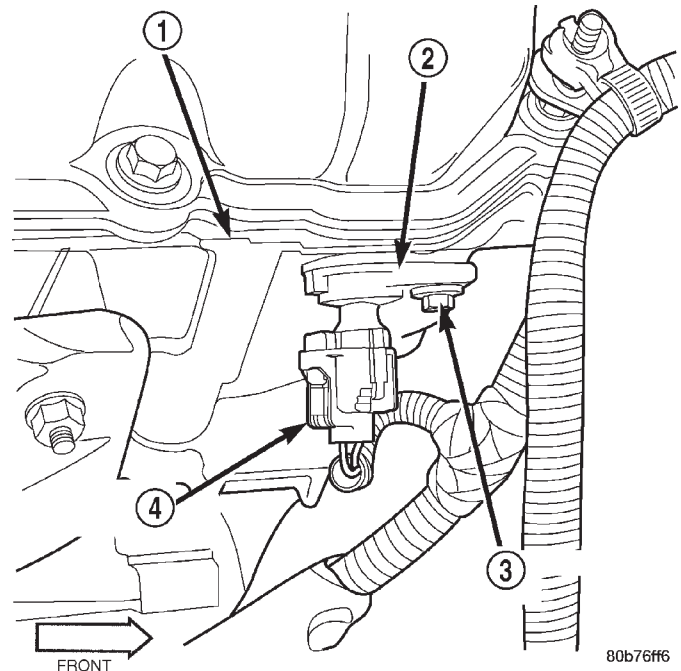

Fig. 30 CMP Location—4.7L Engine
The Camshaft Position Sensor (CMP) on the 4.7L V-8 engine is bolted to the front/top of the right cylinder head (Fig. 30).
- (1) Raise and support vehicle.
- (2) Disconnect electrical connector at CMP sensor (Fig. 30).
- (3) Remove sensor mounting bolt (Fig. 30).
- (4) Carefully pry sensor from cylinder head in a rocking action with two small screwdrivers.
- (5) Check condition of sensor o-ring.